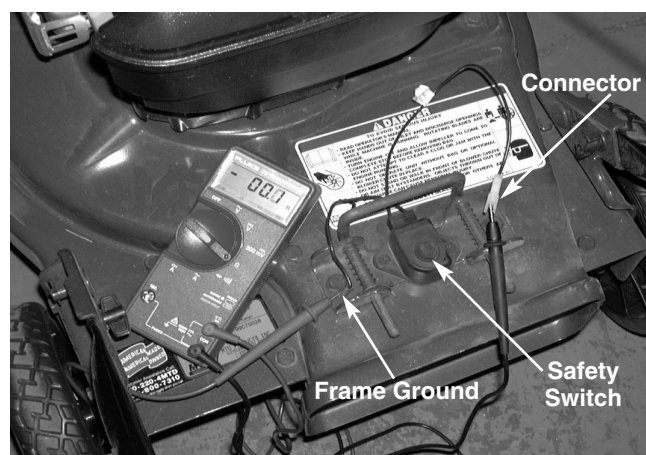

FIGURE 8.
5. With the safety switch plunger up, place one probe into the end of the connector with the wire running to the safety switch. Place the other probe on the connector at the end of the frame ground wire. There will be continuity. See figure 8.